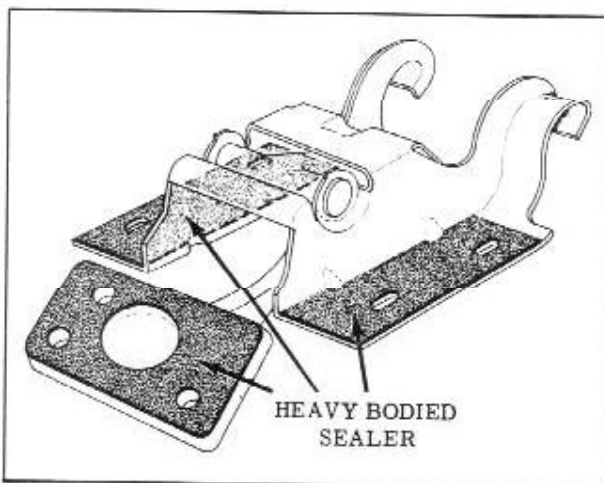

Fig. 15-50 Back Door Hinge - Anti-Squeak
3. To install back door assembly, first, as an anti-squeak precaution, apply a coat of heavy-bodied sealer to attaching surfaces of both hinges, (Fig. 15-50) then, reverse removal procedure. Align back door with previously made hinge marks.
- As an anti-squeak precaution, apply a coat of heavy-bodied sealer to surfaces of hinge which contact body and back door. (Fig. 15-50)